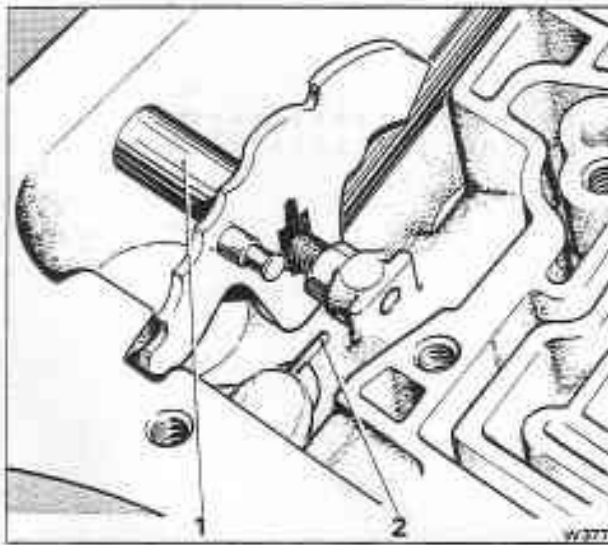

Fig. T18-5 Fitting the manual shaft retaining pin
10. Fit the retaining pin into the transmission casing, aligning it with the groove in the manual shaft (see fig. T18-5).